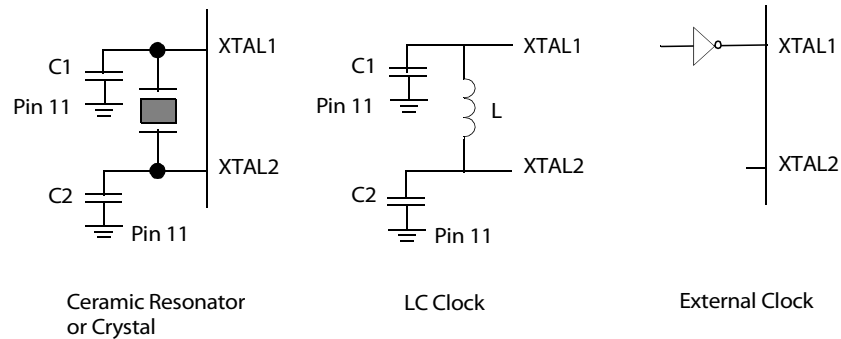

Figure 19. Oscillator Configuration
The Z86E61/Z86E63 MCU's on-chip oscillator features a high gain, parallel resonant amplifier for connection to a crystal, LC, ceramic resonator, or any suitable external clock source (XTAL1 = Input, XTAL2 = Output). The crystal should be AT cut, 1 MHz to 20 MHz max; series resistance (RS) is less than or equal to 100 Ohms. The crystal should be connected across XTAL1 and XTAL2 using the recommended capacitors ( $10\text{pF} < \text{CL} < 100\text{pF}$ ) from each pin to ground; see Figure 19.